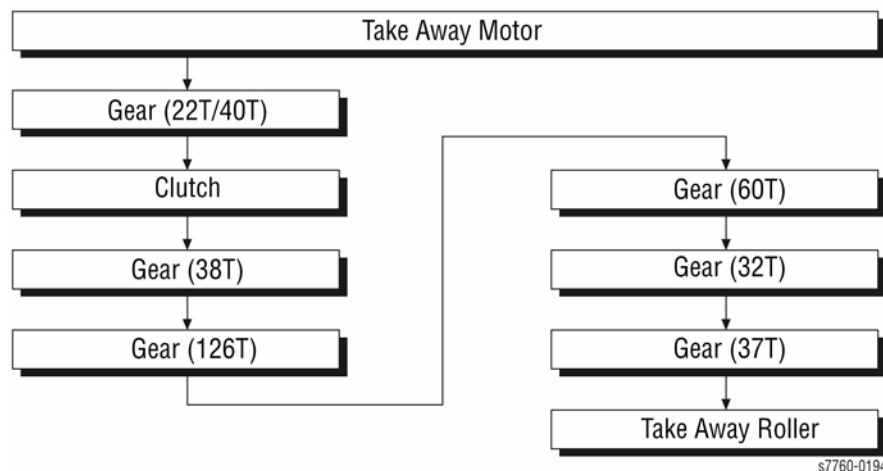

Figure 13 Take Away Motor
- **Tray 3, 4-5 Take-Away Motor:** The rotating force of the Tray 3, 4-5 Take-Away Motor is transmitted through the gears to the Take-Away Roller as in Figure 13.